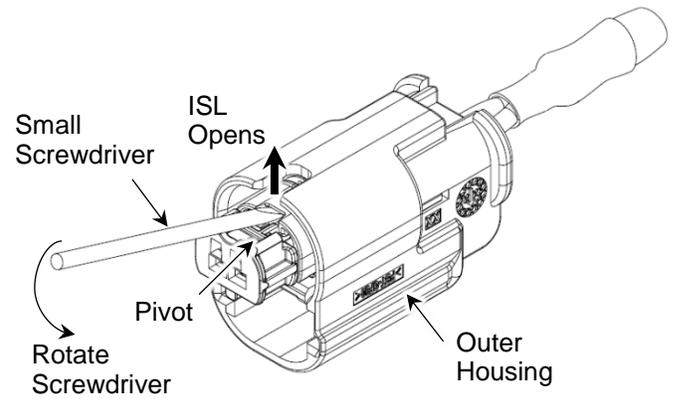

Figure 5
- a. Insert the tip of a small screwdriver into the opening of the ISL, and lift the ISL until it is free from the inside of the housing. See Figure 5